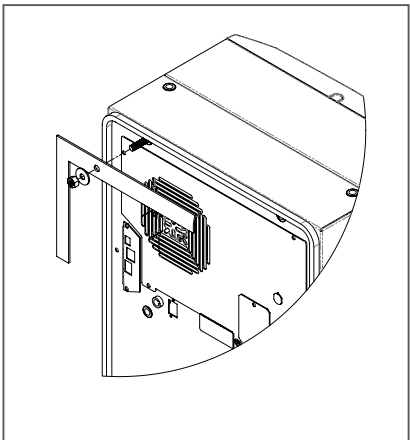

Figure 4
3. Screw the supplied grub screws into the blind nuts on the rear of the unit, see Figure 4.
6. Allow unit to remain upright for a minimum of five (5) minutes before starting.